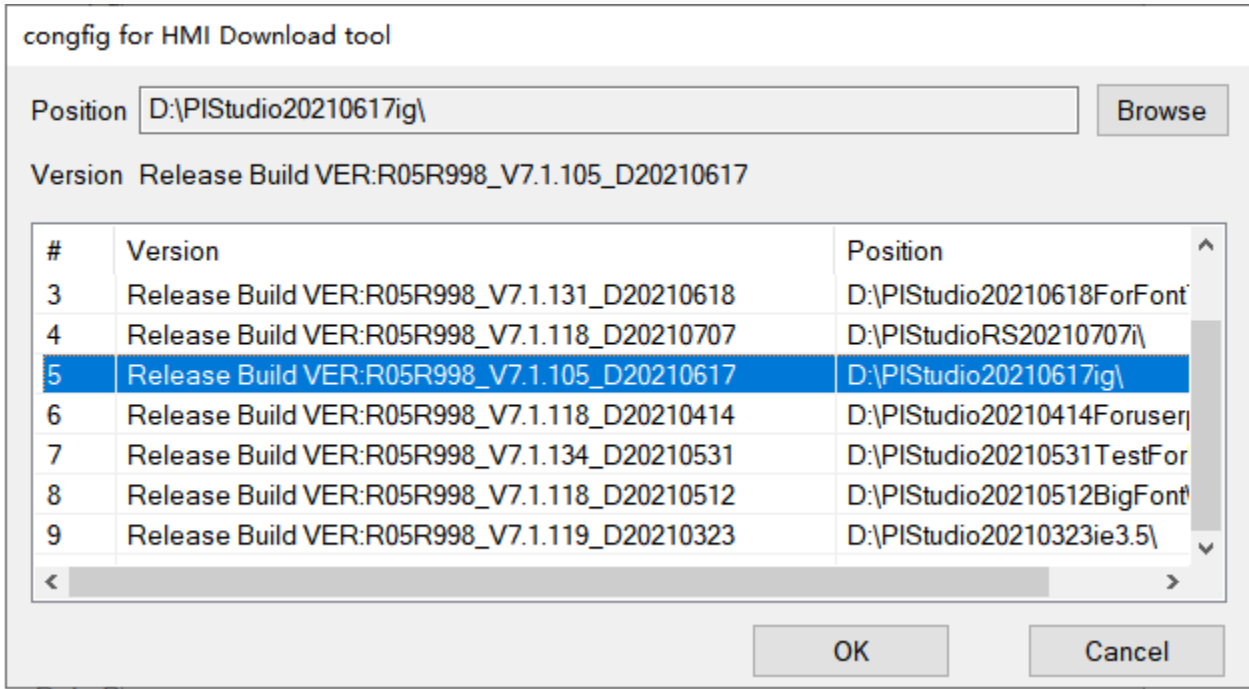

Figure 9
- Click the setting (gear icon) button, a dialog box will pop up, and automatically detect and find the PISStudio that has been installed in PC and conforms to the version, as shown in Figure 9: